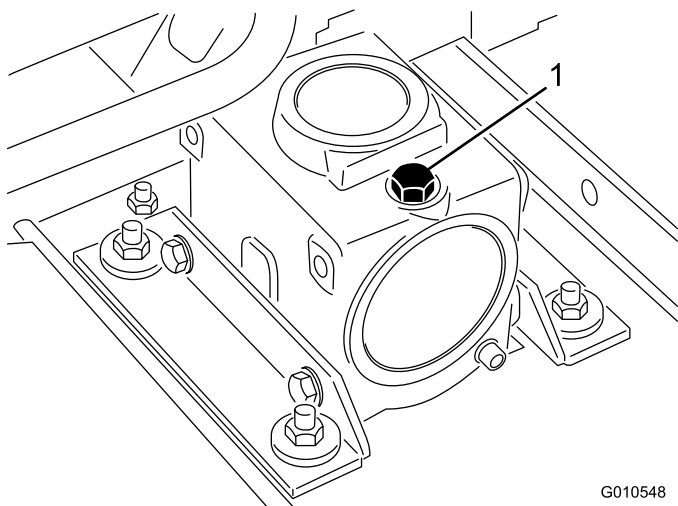

Figure 5
2. Remove the dipstick/fill plug from the top of the gear box (Figure 5) and make sure that the lubricant is between the marks on the dipstick. If the lubricant level is low, add enough lubricant until the level is between the marks.